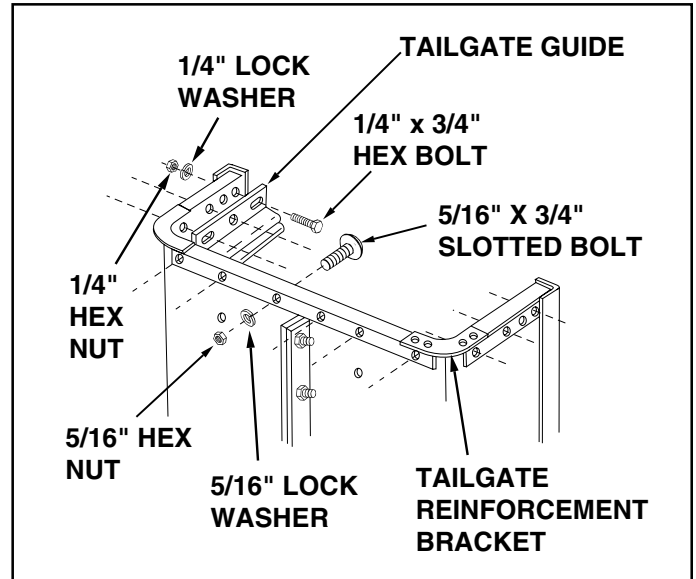

FIGURE 3
5. Position the tailgate reinforcement bracket on outside of cart as shown in figure 3. Assemble to holes in bottom of cart body using six 5/16" slotted head screws, 5/16" lock washers and 5/16" hex nuts. **Do not tighten.** See figure 3.
6. Position the tailgate guides (with mounting holes to the rear) on the inside of the cart bodies as shown in figure 3. Assemble using six 1/4" x 3/4" hex bolts, 1/4" lock washers and 1/4" hex nuts as shown in figure 3. **Do not tighten.**